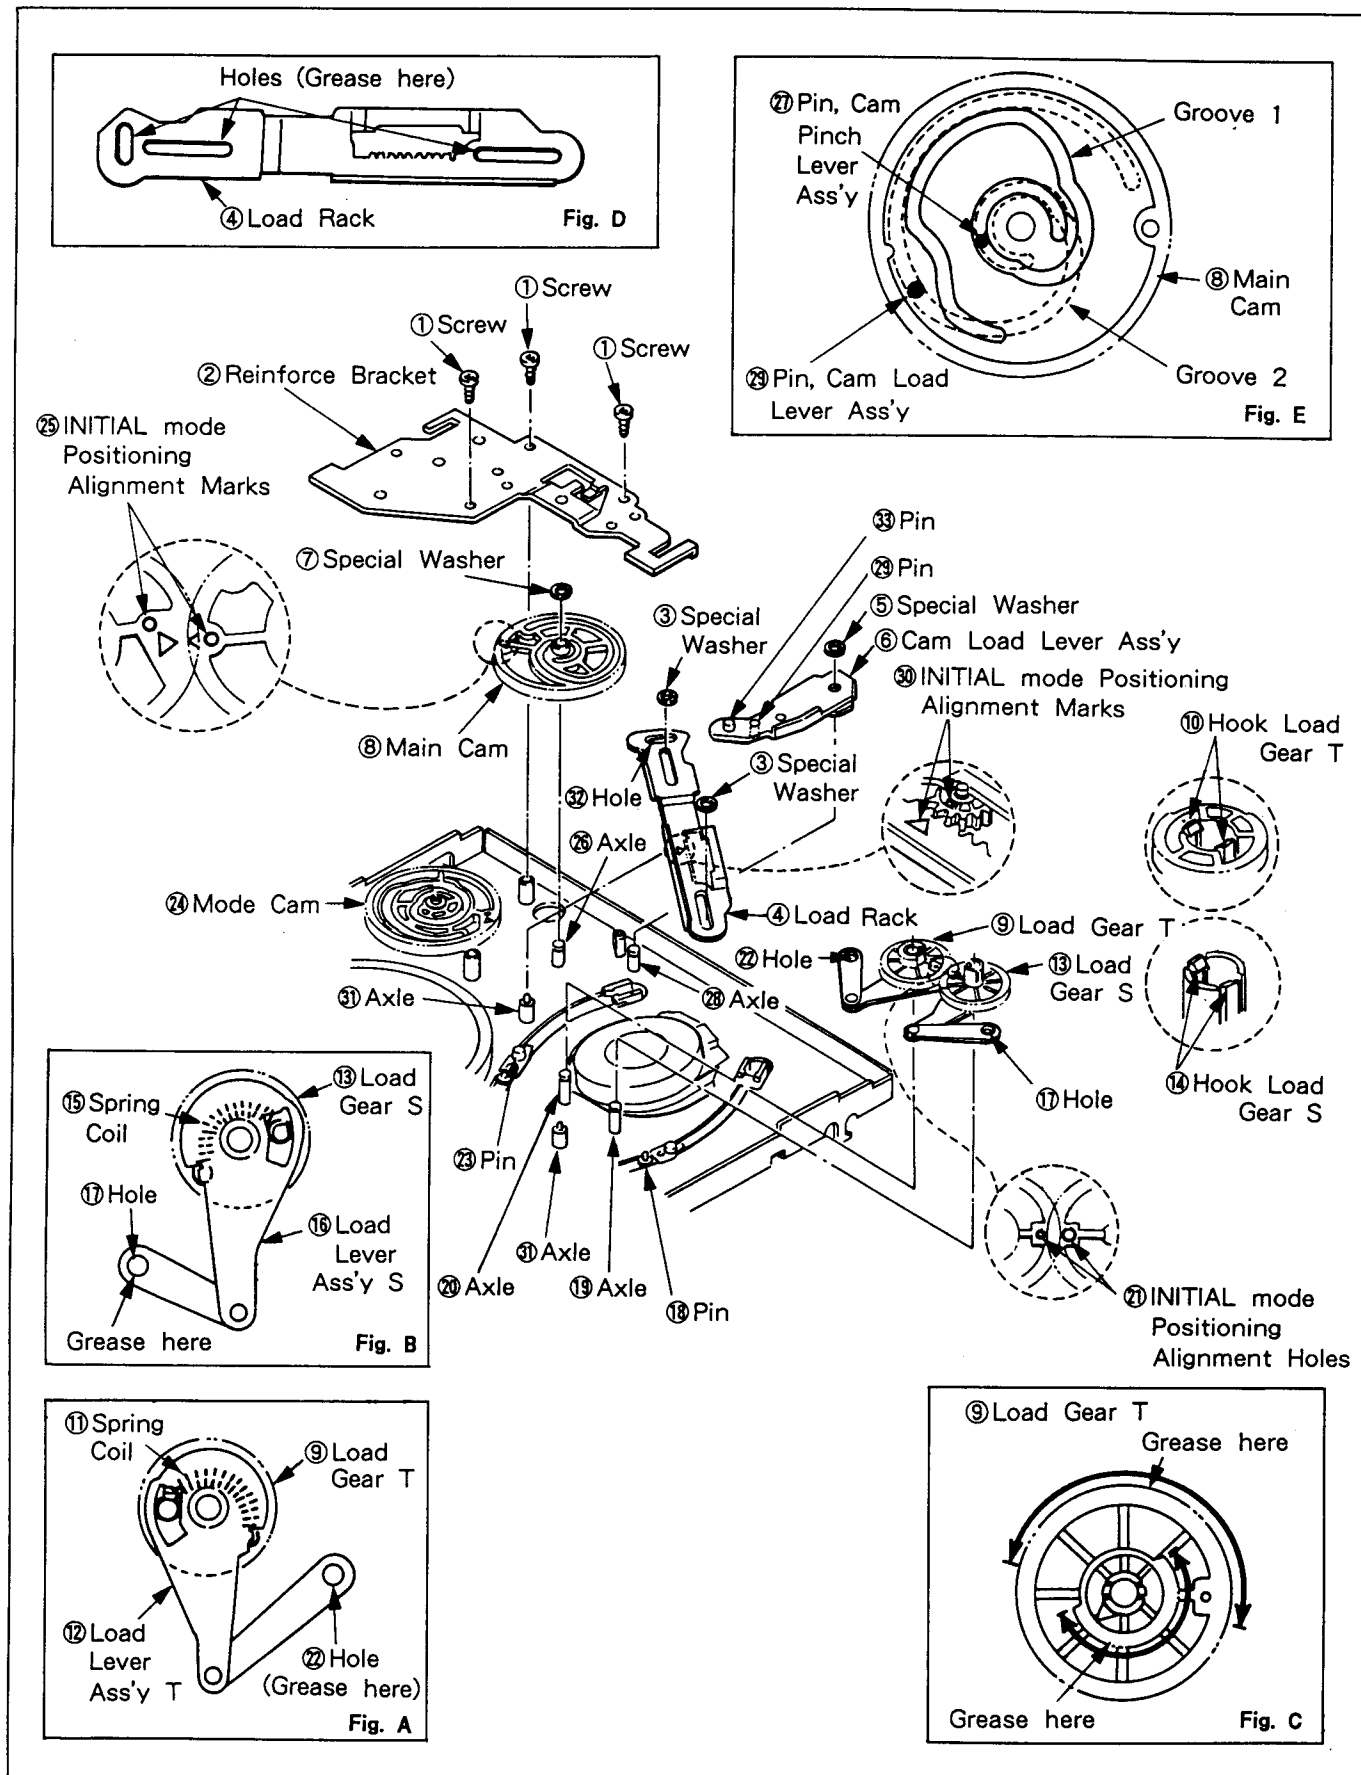

Fig. 2-4-1. Loading Mechanism Main Parts
2.4.1. MAIN PARTS OF THE TAPE LOADING MECHANISM (See Fig. 2-4-1.)